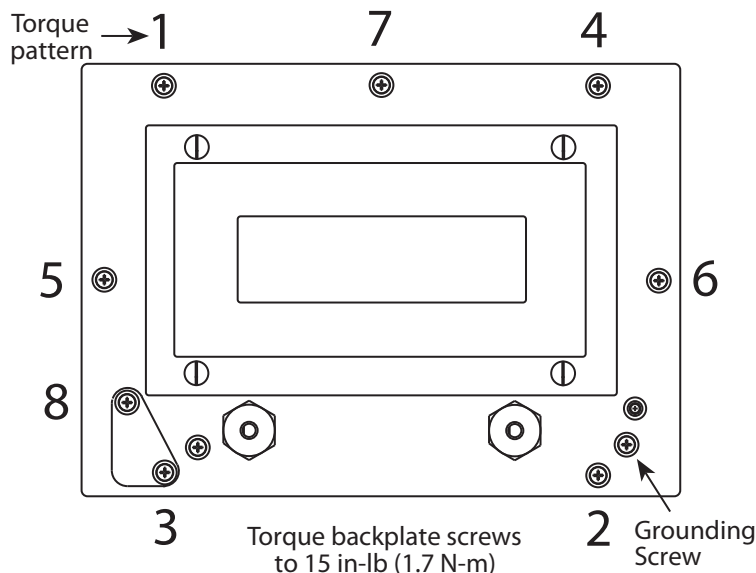

Figure 2-5. Enclosure Backplate
- One 8-32 NC x 7/16 fillister head screw (PN 30623). This screw occupies the hole below the setup switch access screw on the indicator backplate (see Figure 2-5).
Once cabling is complete, position the backplate over the enclosure, reconnect battery cable, and reinstall the backplate screws. Use the torque pattern shown in Figure 2-5 to prevent distorting the backplate gasket. Torque screws to 15 in-lb (1.7 N-m).
To install a new CPU board, reverse the above procedure. Be sure to reinstall cable ties to secure all cables inside the indicator enclosure. Replace backplate and torque screws as shown in Figure 2-5.